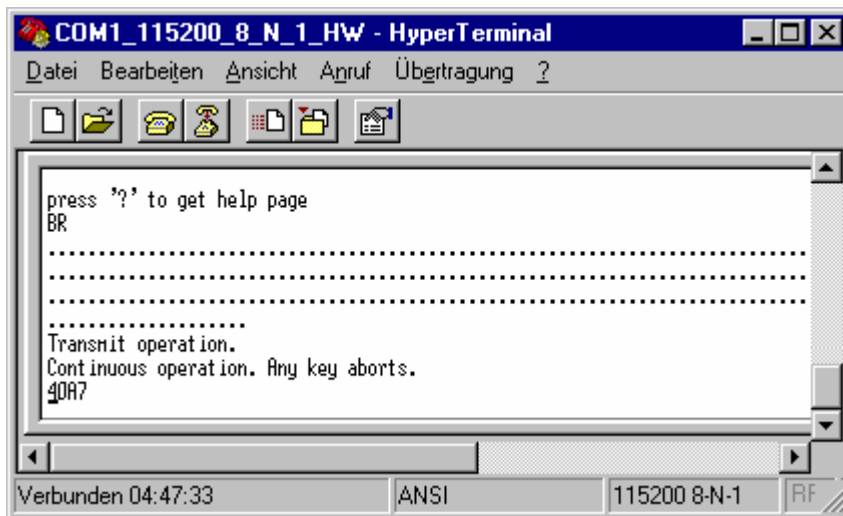

Figure 28: Isochronous transmit (*isoch_1394*)
- in the terminal window, press 'T' to start continuous transmission as shown in Figure 28